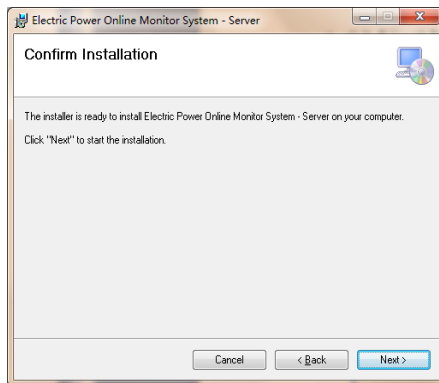

Fig. 3.4
4). Click “Next”, shows as Fig. 3.4